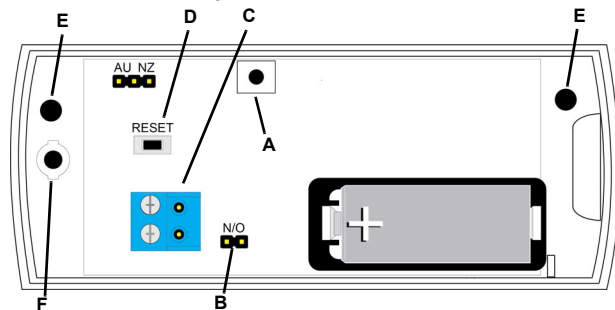

Figure 1 EH1115EOL components
1. When prompted by the receiver to reset transmitter, press the reset button (Figure 1).
2. Mount the transmitter to the wall using the the wall-mount screw holes (Figure 1), ensuring the housing is flush against the wall and the wall tamper switch is firmly depressed.
4. Secure the housing through the enclosed housing screw hole (Figure 1). Accessing this screw on an active transmitter requires opening the housing and removing the battery, causing a tamper condition.